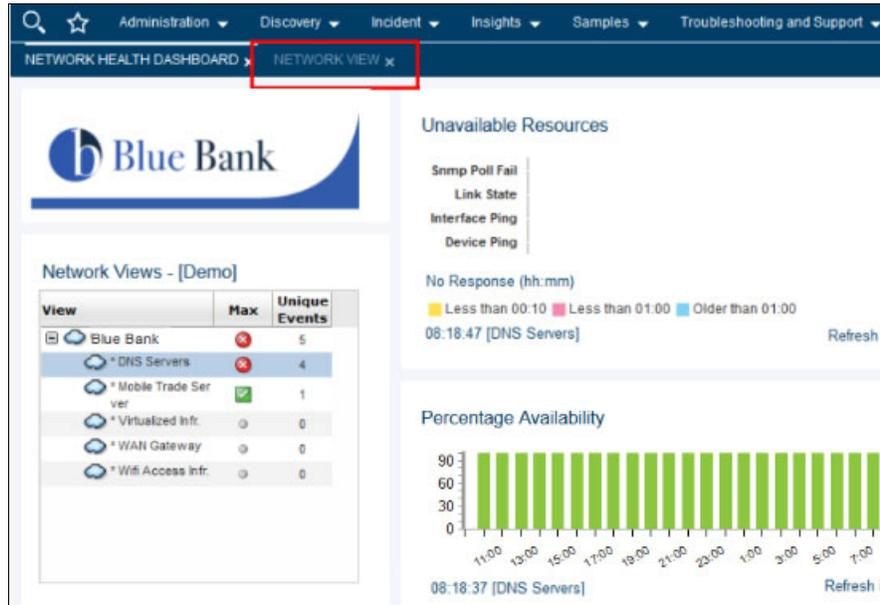

Figure 2-27 Network Views box
2. Brock reviews the Network topology that is associated with the DNS Servers by double-clicking the DNS Servers line in the Network Views box (see Figure 2-27).